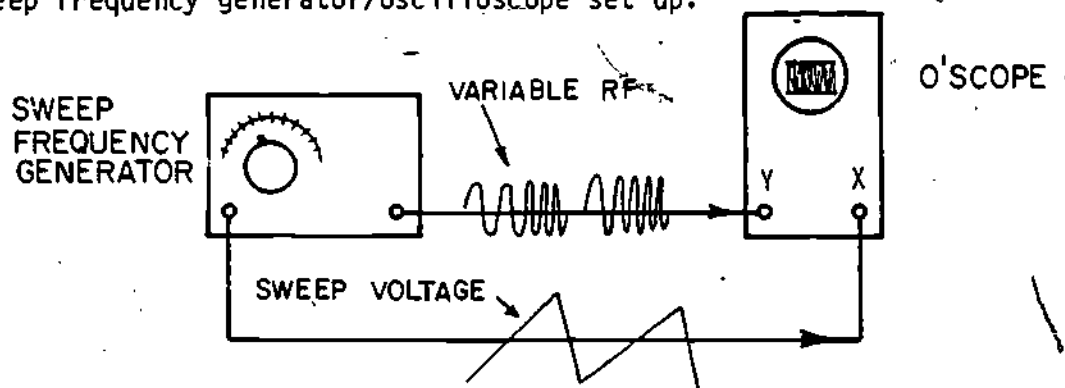

Figure 28
A more efficient and accurate method to test the frequency response of an amplifier is to use a sweep frequency generator. It produces a frequency modulated (FM) signal that varies back and forth, or sweeps, over a section of the frequency spectrum. Figure 28 shows a typical sweep frequency generator/oscilloscope set up.
A second generator output is called a sawtooth sweep voltage. The sweep generator is designed so that the sawtooth horizontal sweep voltage also generates the variable frequency output signal. In Figure 28, the sweep generator's horizontal sweep (sawtooth wave) output is connected to the horizontal plates of the oscilloscope through the X terminal.